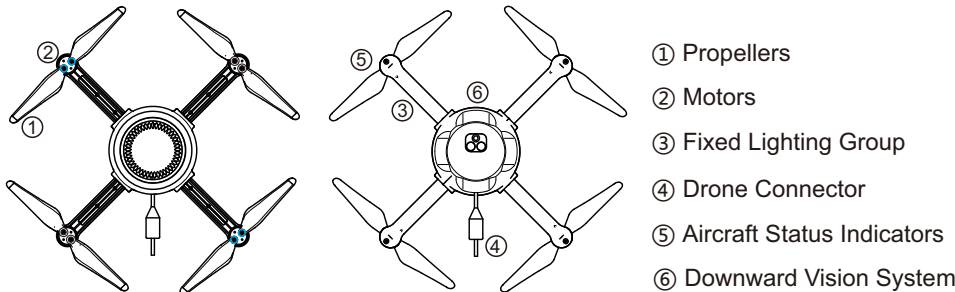

Figure 5-1: Schematic diagram of drone composition
- ① Before using the tethered case, you need to check whether the built-in lithium battery pack of the tethered case is sufficiently charged, and when the power is <20%, you need to charge the lithium battery pack of the chassis in time.
- ② By default, when the drone is hovering in the air, please turn off the automatic cable retraction switch.
d. Composition of the drone (Refer To Figure 5-1)